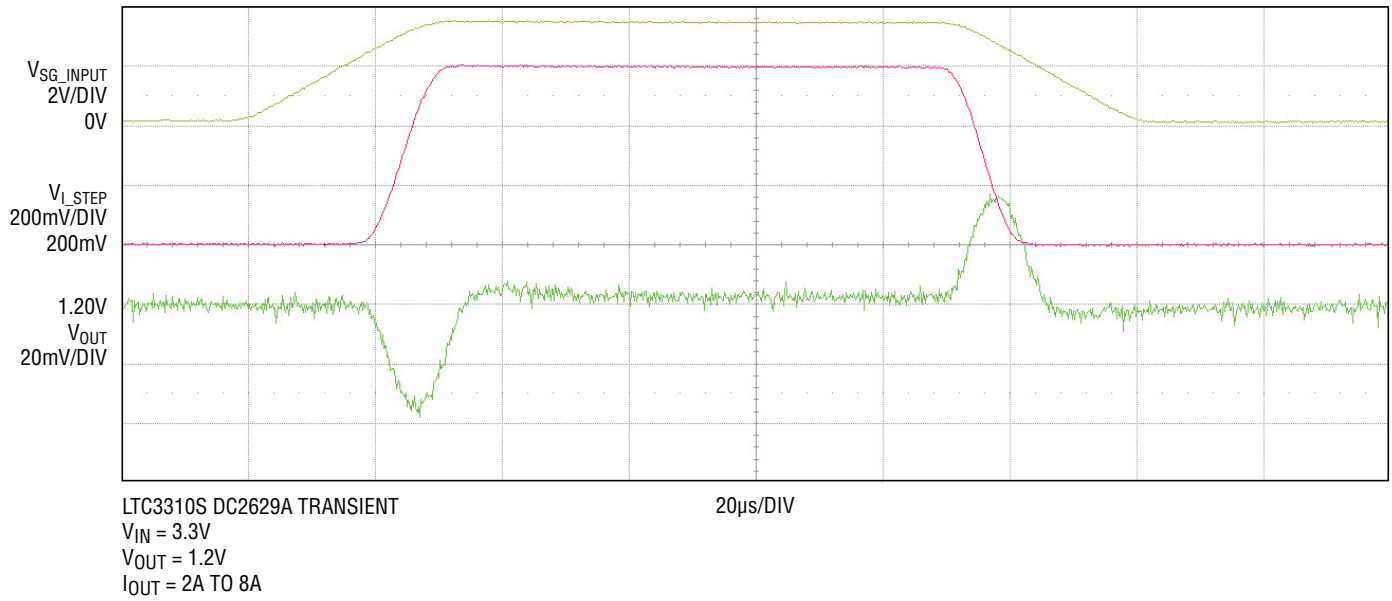

Figure 3. Technique for Measuring Load Step Response
8. Measure the I\_STEP voltage to observe the current,  $V_{I\_STEP}/100\text{m}\Omega$ . Adjust the amplitude of the pulse to provide the desired transient. Adjust the rising and falling edge of the pulse to provide the desired ramp rate. Figure 3 shows a load step from 2A ( $R_L = 0.51\Omega$ ) to 8A. Refer to the following equations: